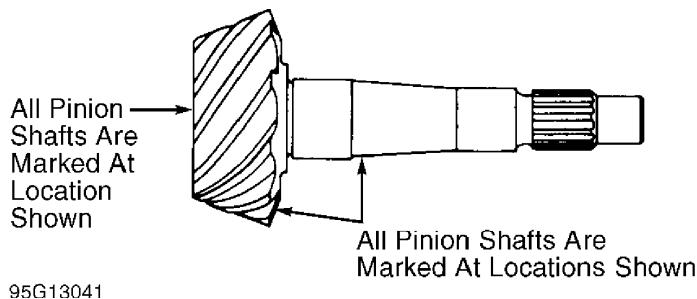

Fig. 5: Locating Pinion Shaft Markings
7) Dial indicator will now read required pinion shim thickness for a "nominal pinion". Record this reading. Check drive pinion for painted or stamped markings on pinion stem or a stamped code number on small end of pinion gear. See Fig. 5.